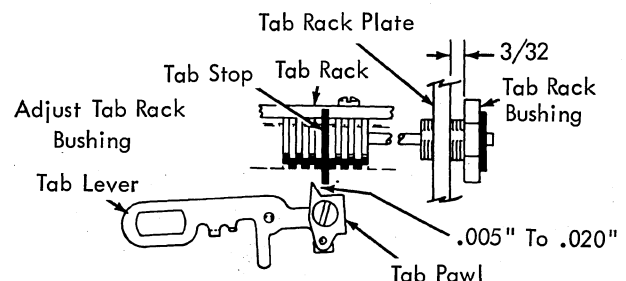

FIGURE 164. Tab Rack Bushing
6. Tab Rack (Fig. 164) - With the tab cam on its high point, adjust the tab rack left to right for $.005'' - .020''$ clearance between a set tab stop and the side of the tab lever pawl.